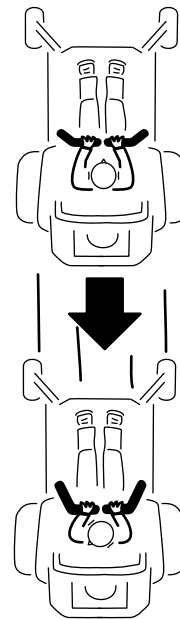

Figure 29
2. To go backward, slowly pull the motion-control levers rearward (Figure 29).